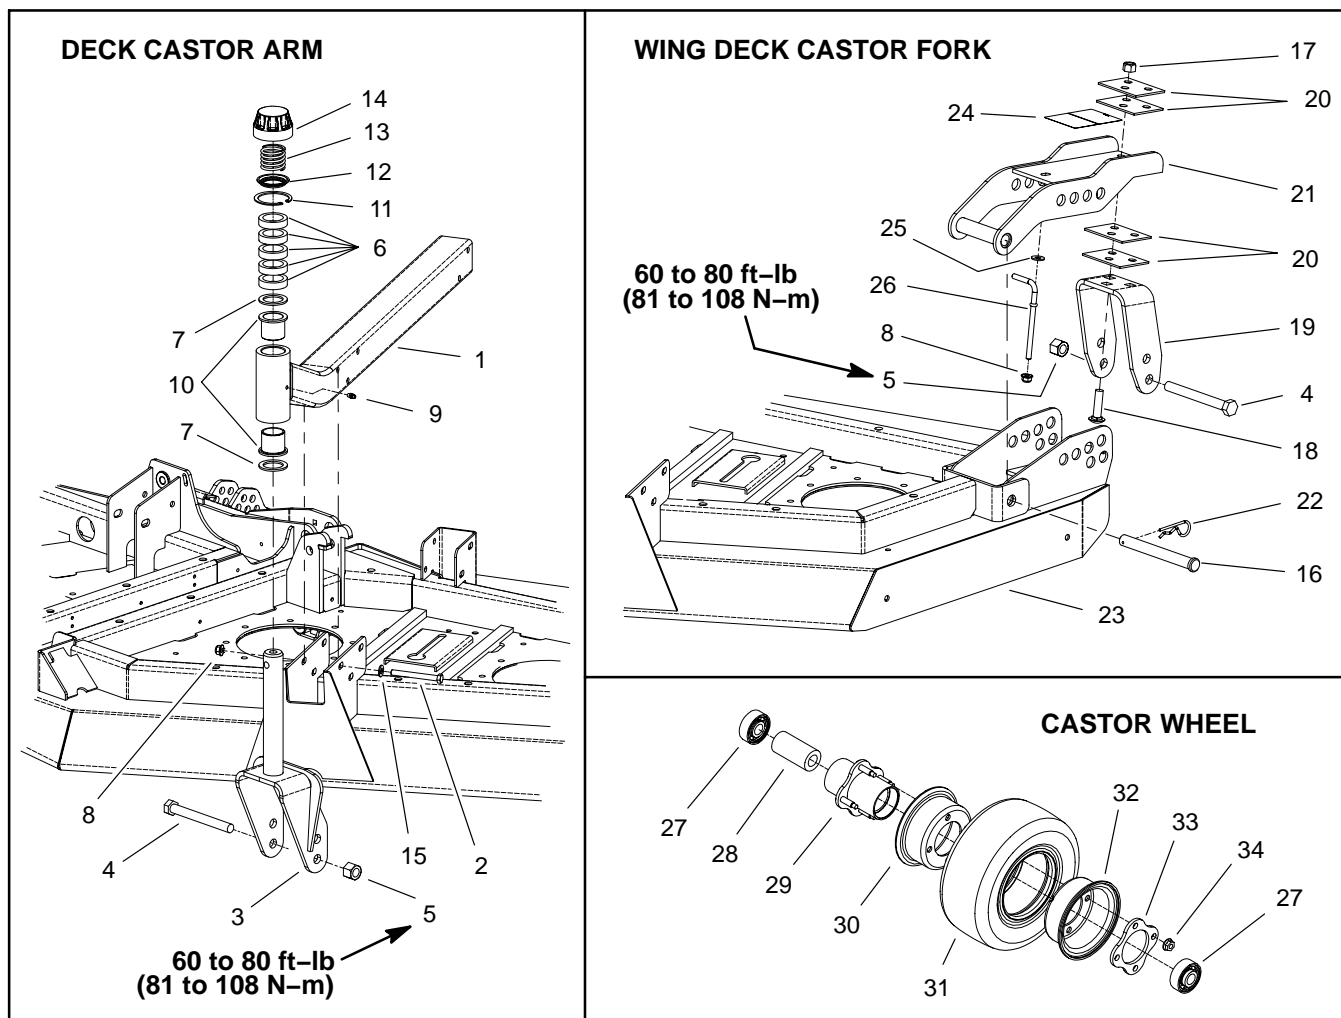

Figure 19
1. Disassemble castor forks and wheels using Figure 19 as a guide.
1. Assemble castor forks and wheels using Figure 19 as a guide.